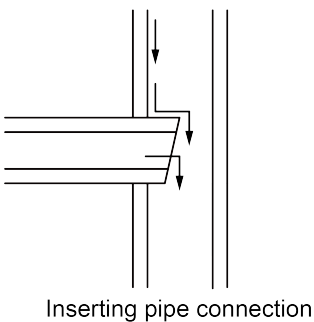

Fig.4.3.9
- No.3: Set into horizontal pipe as show in Fig.4.3.9.